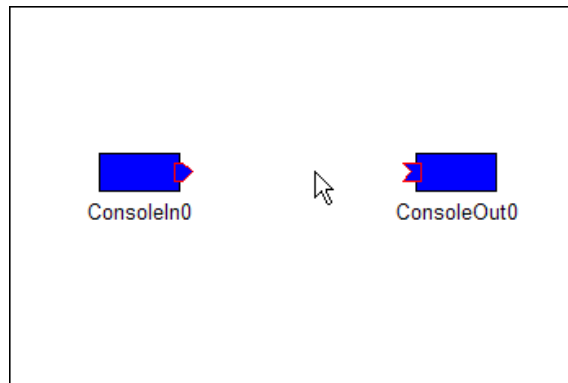

Fig. 4.18: Disconnecting components(b)
**Disconnecting components** After a left click on the line connecting the 2 components, press the “Delete Key” (Figure 4.18).